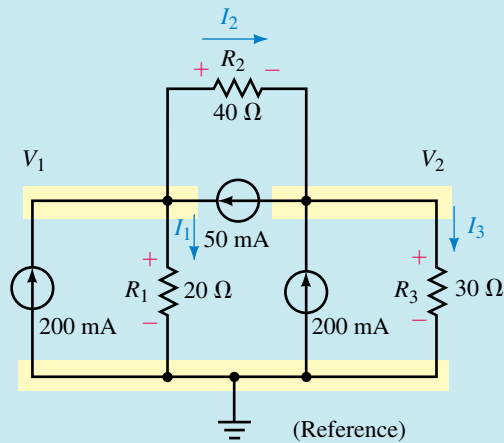

FIGURE 8–31
Step 2: Convert the voltage sources into equivalent current sources. The equivalent circuit is shown in Figure 8–31.